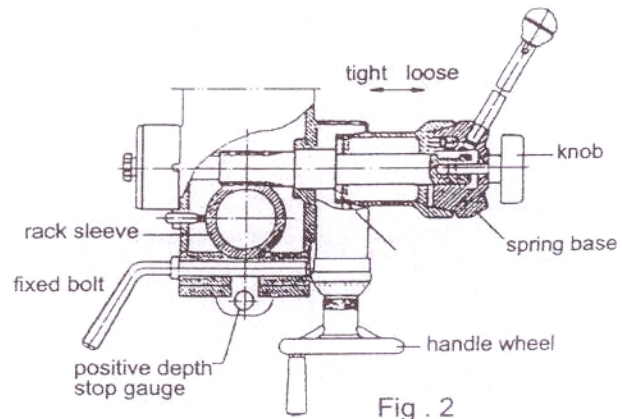

Fig . 2
(1) Preparing for Drilling (see fig.2) (Except addition power feed system).
(2) Preparing for Milling (see fig.2) (Except addition power feed system).